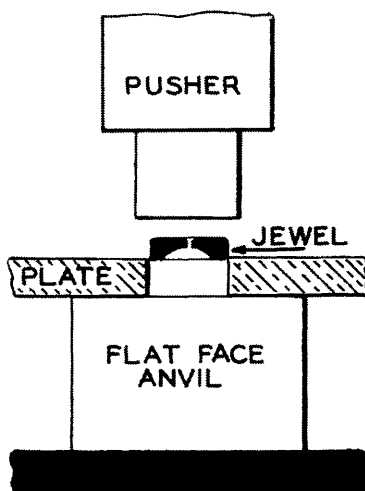

Fig. 14-13
12. Place jewel in reamed-out hole, oil cup down, figure 14-13.